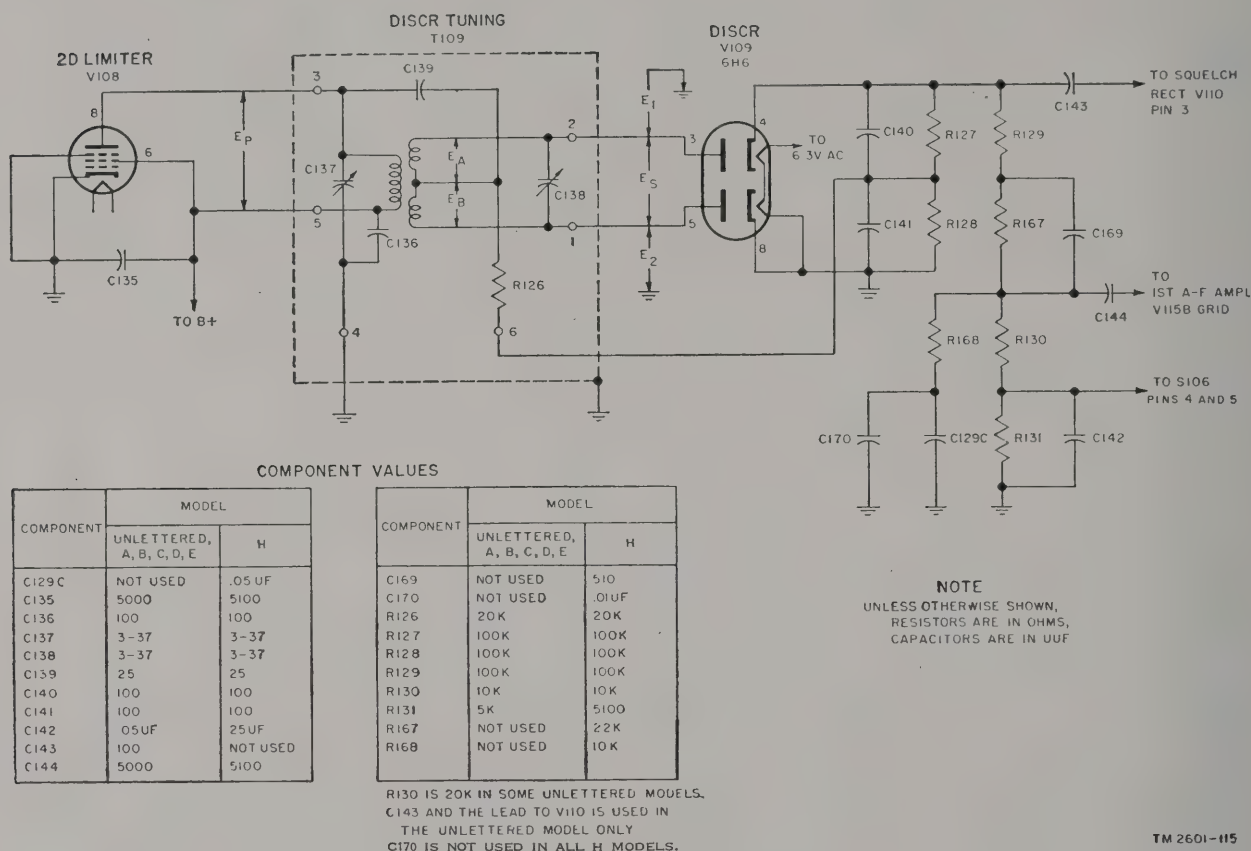
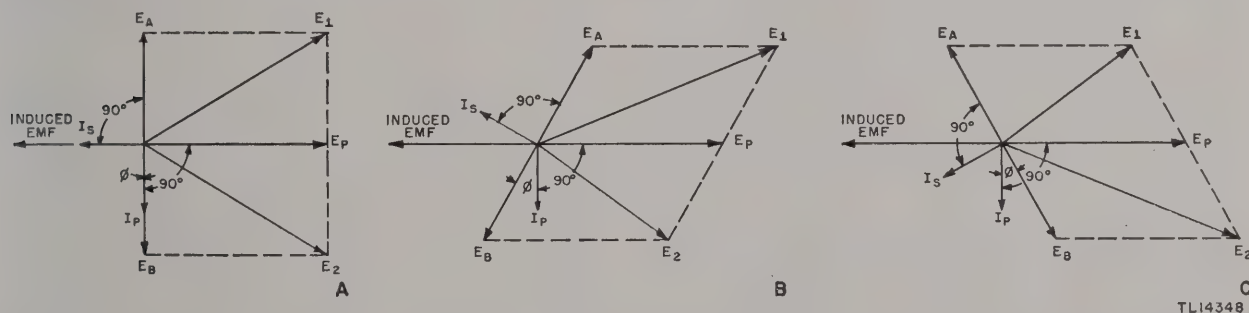

Figure 140. Discriminator.
Figure 141. Discriminator phase relations.
a. The discriminator circuit is shown in a functional diagram in figure 140. The purpose of the discriminator stage is similar to that of the detector of the conventional superheterodyne receiver. It converts its input signal into a-f
c. A detailed explanation of the discriminator phase relations follows: First, consider the condition when the output of the i-f amplifier and limiter stages is at the resonant frequency to which both the primary and secondary windings of T109 are tuned. This is the case when the signal being received is not modulated. Voltage E_P (A, fig. 141) exists across the primary
E_P by 180° (A, fig. 141). As mentioned before, the secondary circuit is resonated exactly to the i.f. Consequently, the impedance which is presented to the induced voltage is a pure resistance and the resulting current, I_s , is in phase with the induced voltage (A, fig. 141). Now consider voltages E_s , E_A , and E_B . Since the secondary of T109 is a nearly pure inductance, voltage E_s appearing across its terminals will be in quadrature (90° out of phase) with the current I_s through it. But, the two components of E_s , that is, E_A and E_B , are 180° out of phase with each other. (Each is measured with respect to the center tap of the secondary winding.) One of the voltages must lead while the other voltage lags secondary current I_s by 90° as indicated in A, figure 141. Voltage E_P is connected directly to the secondary center tap by C139. The total voltage across the diode connected to pin 3 of tube V109 is made up of E_P in series with E_A ; the total voltage across the diode connected to pin 5 of tube V109 is made up of E_P in series with E_B . These total voltages are shown in figure 141-A as E_1 and E_2 , respectively. It will be noticed that the magnitude (length) of E_1 and E_2 is the same. Therefore, the d-c output voltage of each diode will be the same but of opposite polarity. The total voltage developed at pin 4 (fig. 140) (cathode end of resistor R127 to ground) will be zero.
and, consequently, secondary current I_s lags the induced voltage. As a result, E_A and E_B are related to E_P as indicated in B, figure 141, and voltages E_1 and E_2 across diode-load resistors R127 and R128 are no longer equal in magnitude and do not cancel out. The voltage E_1 is greater than E_2 , so the output from the cathode end of resistor R127 (pin 4) to ground will be positive.
e. When the signal frequency is below resonance, the phase relations are as shown in C, figure 141. The series impedance of the secondary circuit is capacitive and secondary current I_s leads the induced emf with the result shown. E_2 is now greater than E_1 , and the output voltage from the cathode end of resistor R127 (pin 4) to ground will be negative.
d. Assume that the signal frequency is higher than the resonant frequency; the essential phase relations within the discriminator circuit are shown in B, figure 141. The relations of E_P , I_P , ϕ , and the induced emf in the secondary are as they were in the case of a resonant signal. However, the impedance presented by the secondary circuit to the induced emf is no longer a pure resistance; it has an inductive component,